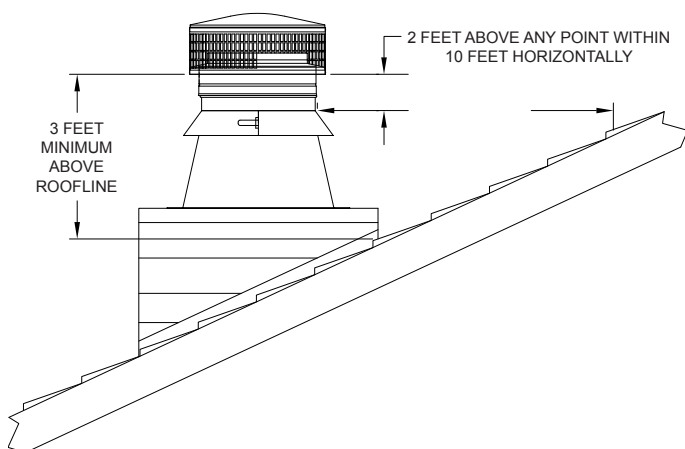

FIG. 9
**13ACECOCC Termination:** NFPA 211, "Standard for Chimneys, Fireplaces, Vents, and Solid Fuel-Burning Appliances", states that chimneys shall extend at least three feet above the highest point where it passes through the roof of a building, and at least two feet higher than any portion of a building within ten feet. See FIG. 9. & FIG. 12.